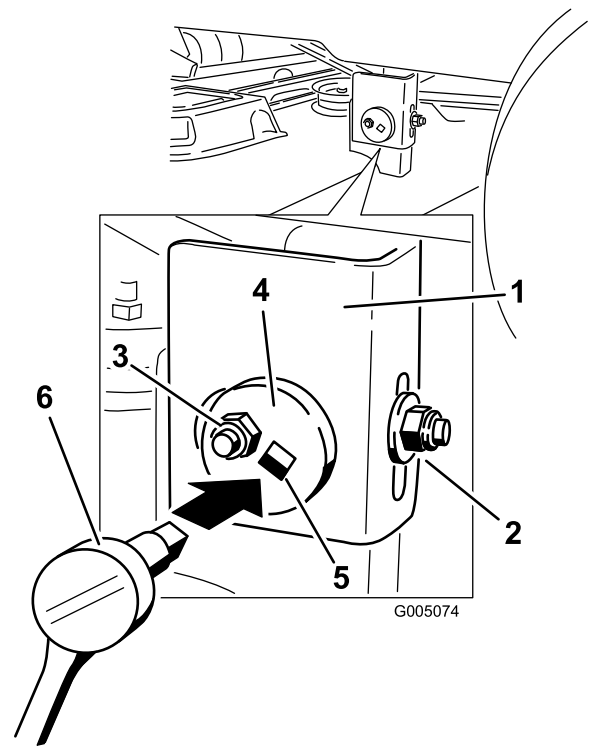

Figure 42
7. At the left side of the machine. Loosen, but do not remove, the rear locking nut on the hanger bracket (Figure 42).
8. Loosen the side locking nut on the hanger bracket just enough to allow the centric plate to be adjusted (Figure 42). Use a 3/8 inch drive extension on a socket wrench to manipulate the centric plate. Use the wrench to reposition the height of the mower deck and adjust to the desired height.
9. Stop the deck at the adjusted position and tighten the side locking nut on the hanger bracket to hold the new position (Figure 42).